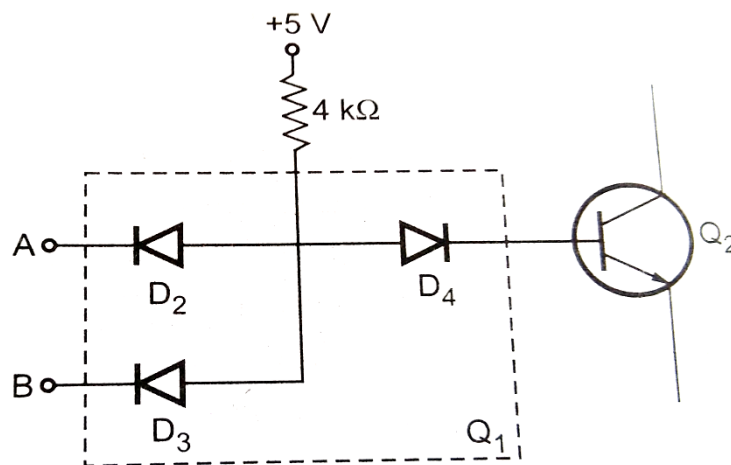

Figure 1.11: Diode equivalent for Q_1 .
- Although this circuit looks complex, we can simplify its analysis using the diode equivalent of the multiple-emitter transistor Q_1 , as shown in figure 1.11.